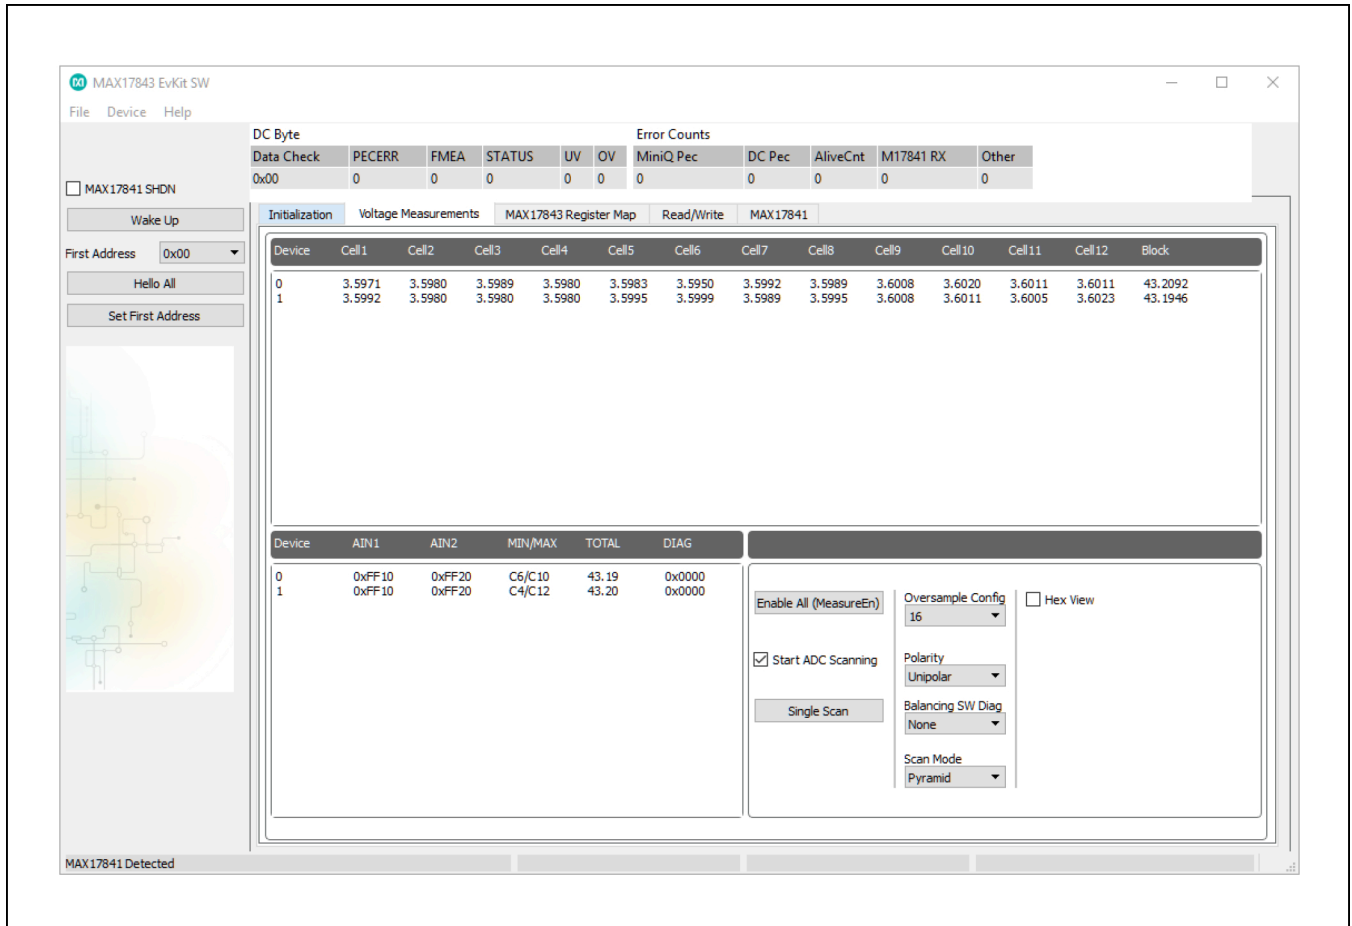

Figure 9. MAX17843 Evaluation Kit Software (Voltage Measurements Tab—Start ADC Scanning)
**Initiate Continuous ADC Scanning (Figure 9):**